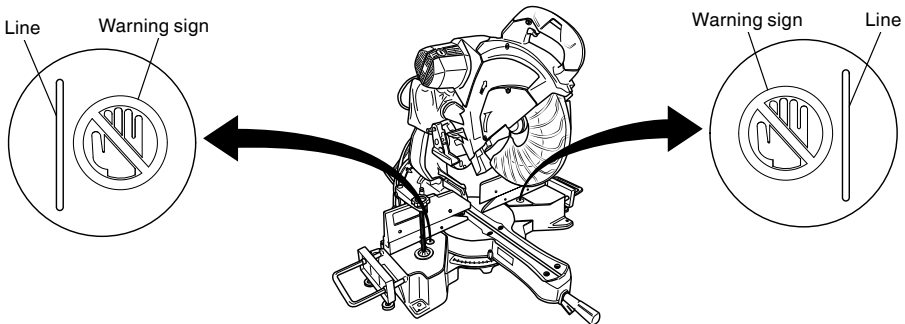

Fig. 22
- \* Never place your limbs inside of the line next to warning sign while the tool is being operated. This may cause hazardous conditions (see Fig. 22).